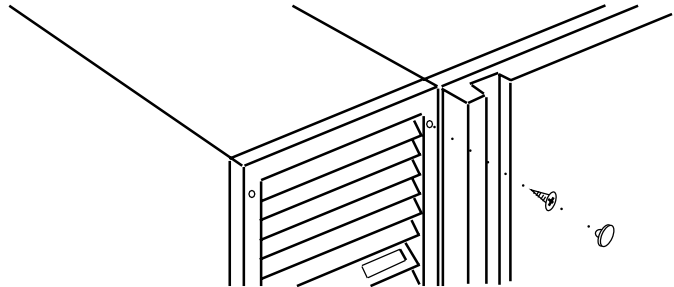

Fig. 6
1. Remove the louver panel by first removing the four (4) black plastic plugs that are located in each corner of the powerpack louver assembly. These conceal four (4) Phillips head screws which hold the louver in place. Remove these screws as well, and set both them and the plastic plugs aside (see figure 6).